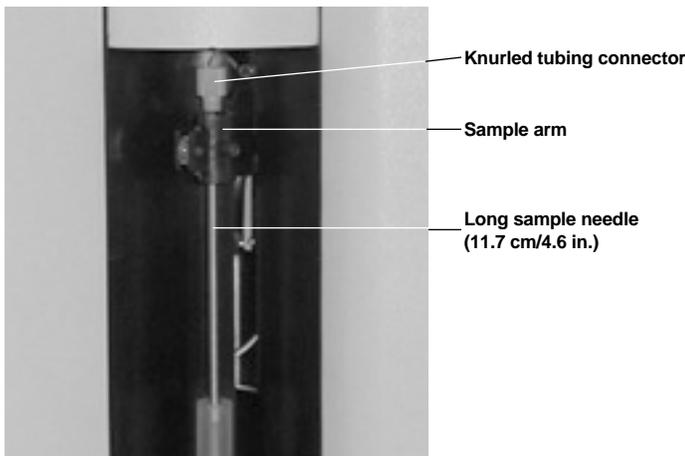

Fig. 13. Sample needle assembly.
3. Remove the knurled tubing connector (Cheminert fitting) atop the sample arm by grasping the sample arm and turning the connector counterclockwise (Figure 13). If the tubing is difficult to remove, push up gently on the sampling needle.